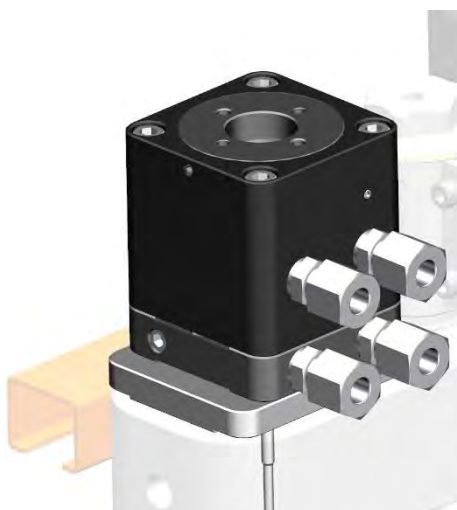
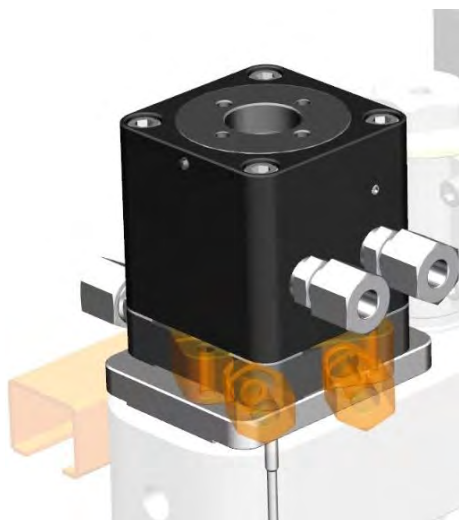

Figure 52: Actuation and cooling in the same direction
Figure 53: Actuation and cooling offset by 180°
- 4) Then mount the hydraulic block with the 4 socket head cap screws. You can also mount it in such a way that the connections for the cooling plate and those for hydraulic block are offset by 180° in relation to each other (cf. Figure 52 and Figure 53)